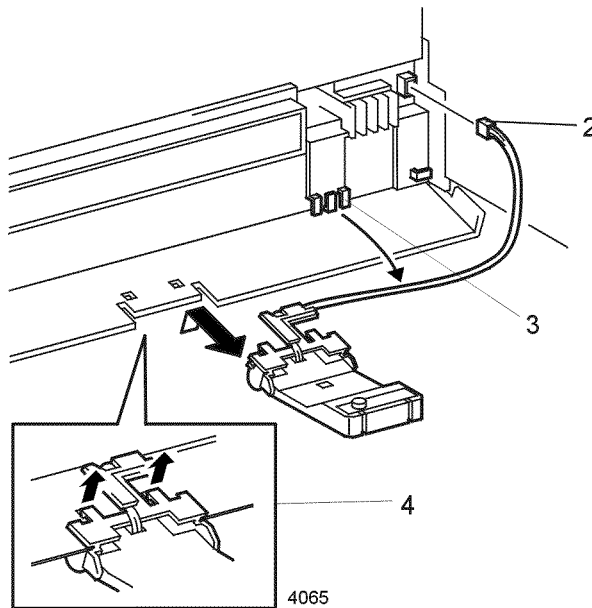

Figure 1 Toner Sensor Assembly
3. Release Toner Sensor Assembly Harness from the cable clamps and retainers (Figure 1).
4. Release the two locking tabs and remove the Toner Sensor Assembly from the printer (Figure 1).